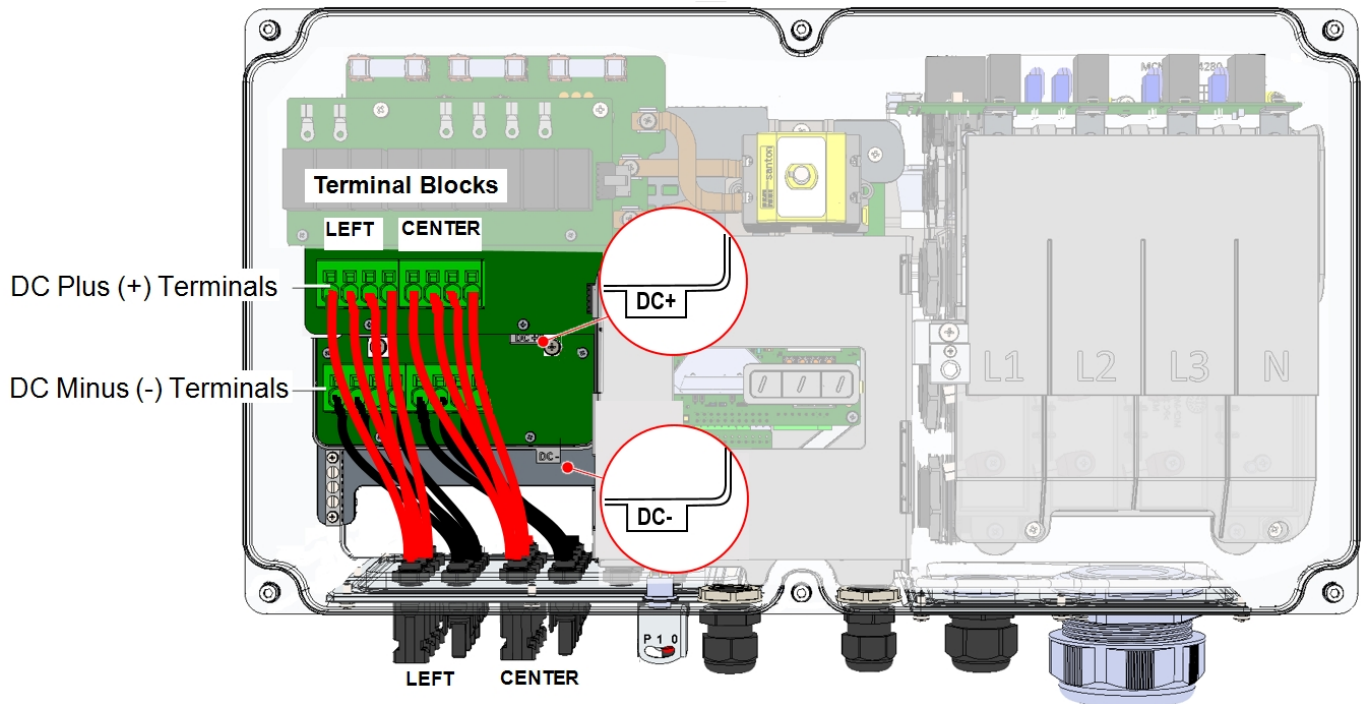

Figure 1: Disconnecting wires from DC+ and DC- terminals inside the Manager Unit
1. Disconnect all DC wires from DC+ and DC- terminals (See *Figure 1*).